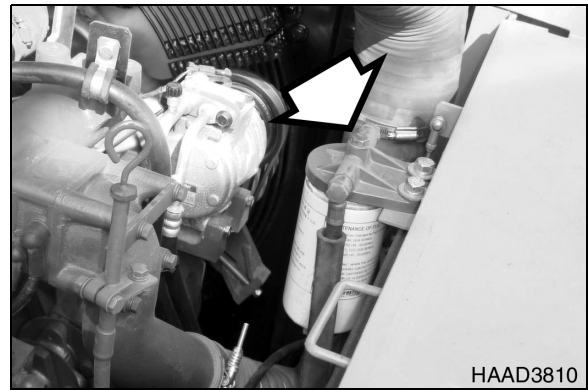

Figure 20
1. Loosen plug (Figure 20) on top of fuel filter head.